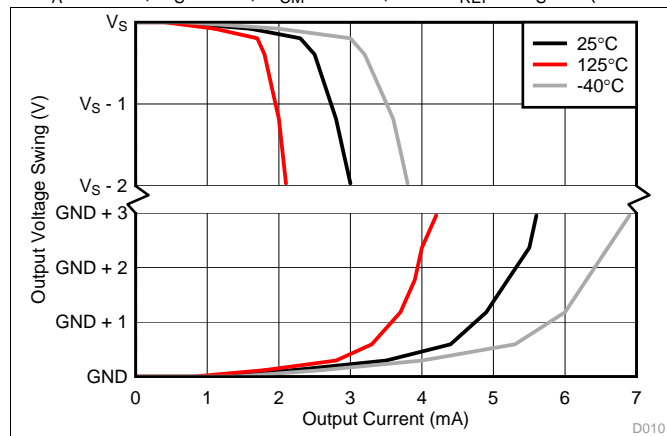

Figure 13. Output Voltage Swing vs Output Current
(1) See Figure 13.
(2) See the Input Signal Bandwidth section for more details.